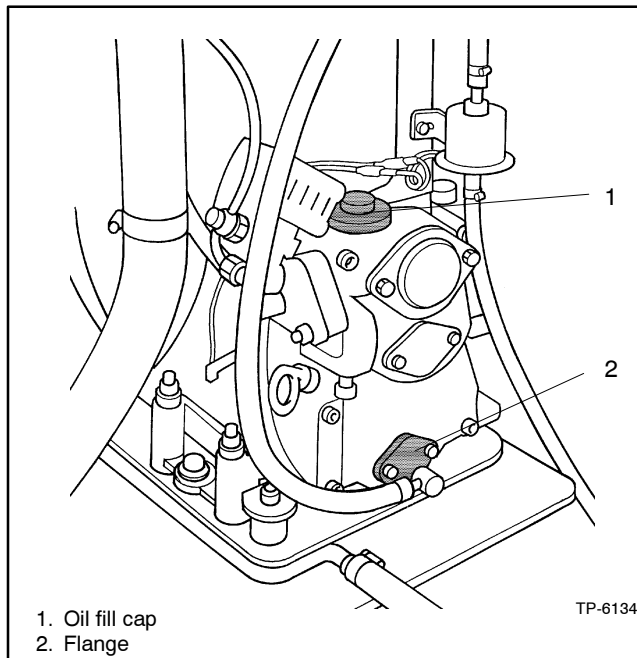

Figure 3-5 Oil Strainer
- a. Remove the flange on the crankcase. See Figure 3-5 for location.